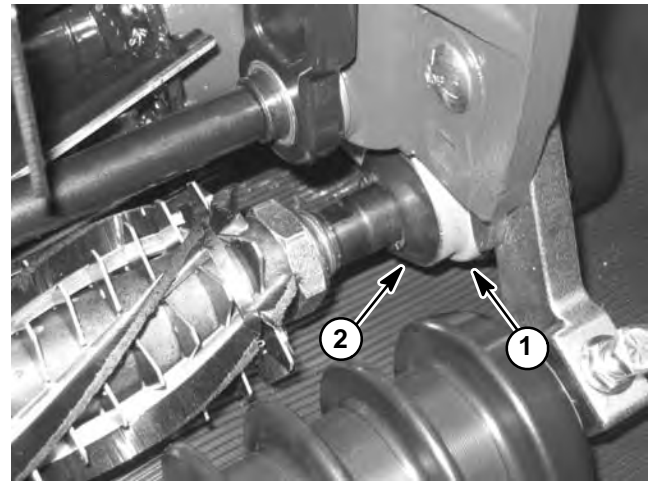

Figure 8
6. Check that excluder seals just touch groomer plate assembly (Fig. 8). Reposition excluder seals on groomer shaft if necessary.